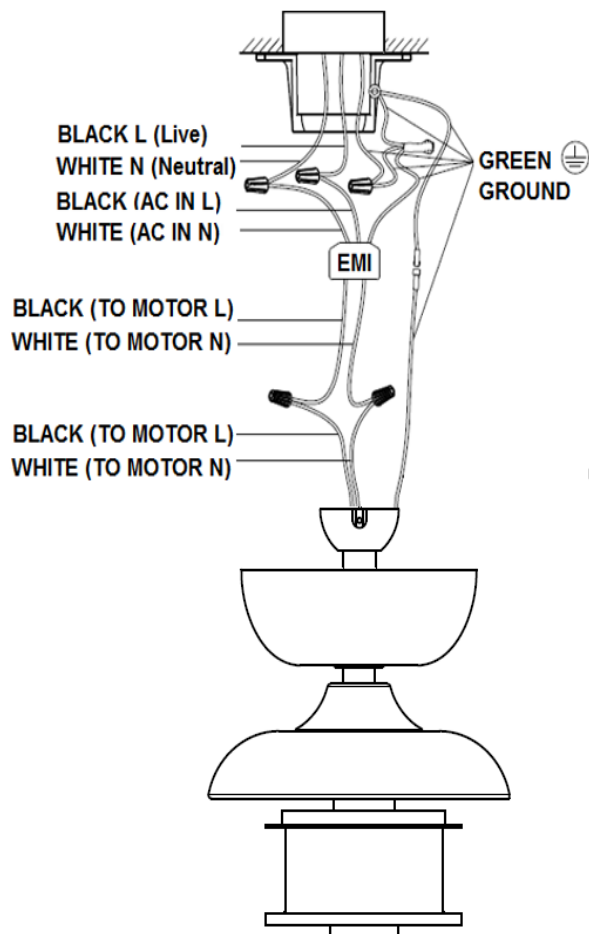

Fig. 8
1. Connect the household live supply wire (black) to EMI filter input wire (black, AC IN L) as shown in **Fig. 8**.